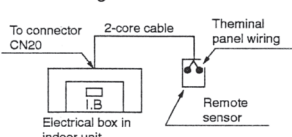

Fig.3
• The wiring connection of the indoor unit's electrical box and remote sensor is shown in Fig.3. There are three methods of connecting the 2-core cable to the electrical box.